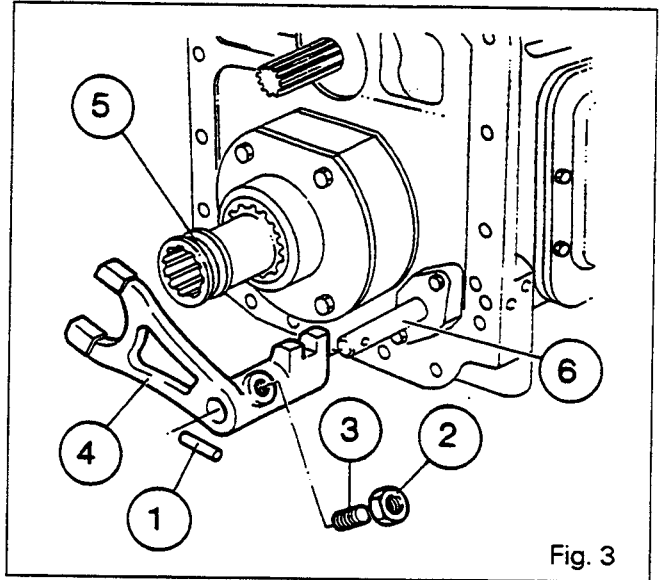

Fig. 3
Remove pin (1) locknut (2), adjustable locking screw (3), and fork (4) with sleeve (5) (see Fig. 3).